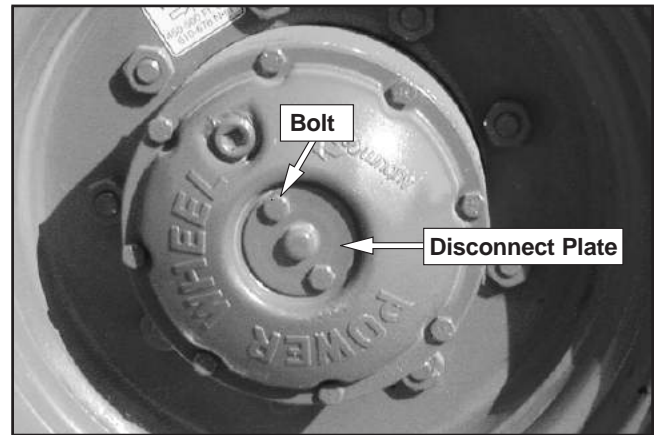

Figure 10.6—Drive Wheel
7. At each drive wheel, remove the two bolts from the disconnect plate (refer to Figure 10.6). Turn the plate over so the nipple points inward. Reinstall the two bolts.
11. At each drive wheel, remove the two bolts and return the plate to its original position as shown in Figure 10.6.